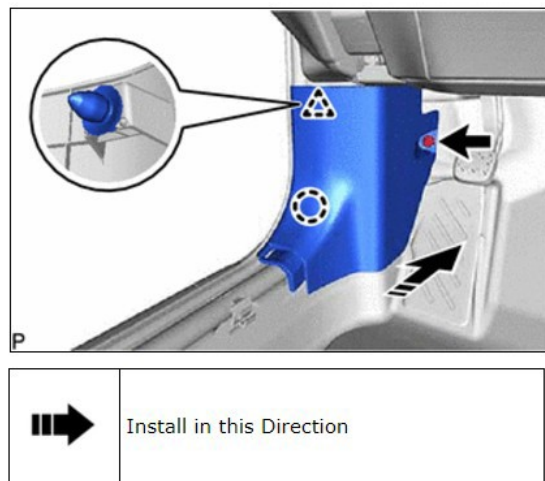

Figure 50
- (a) Engage the claw and clip as shown in Figure 50.